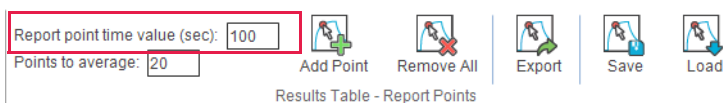

Figure 5-41: Entering a Report Point Time Value
1. In the Report Points menu at the top the screen, enter a time (in seconds) in the **Report point time value (sec)** box (Figure 5-41).